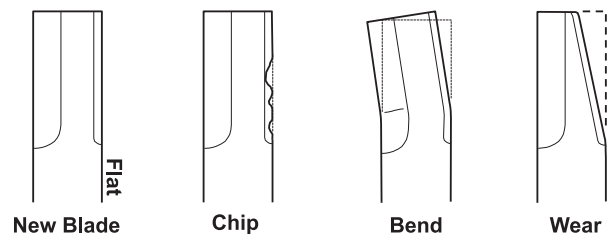
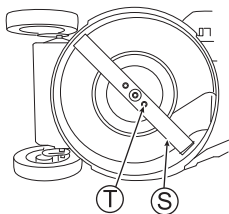

Fig. 33
Fig. 34
1. Confirm that there is no chip, bend, or wear with the blade (S). (See Fig. 33)
2. If the blade (S) or its blade mounting bolts (T) are "worn", "broken" or "deformed", exchange with new one(s) specified by us.
3. Confirm that the blade mounting bolts (T) are tightened by the specified torque. (See Fig. 34)
2. Fully tighten the blade mounting bolts (T) with hand.
4. Confirm that the blade mounting bolts (T) are tightened by the specified torque. (See Fig. 34)